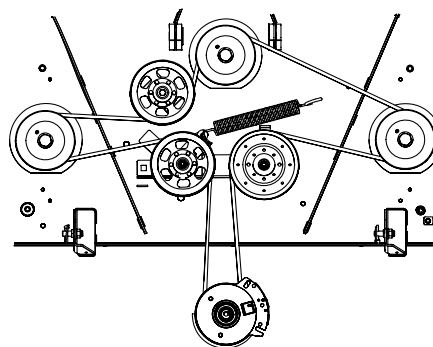

Figure 4-17
6. Place the belt around the idler pulleys removed in step 3 with the "V" side facing in. Once in place, reinstall all the hardware and tighten the flange lock nut to secure the assembly. See Figure 4-17.
7. Route the belt as shown in Figure 4-17 and then reinstall the deck (refer to Deck Installation).